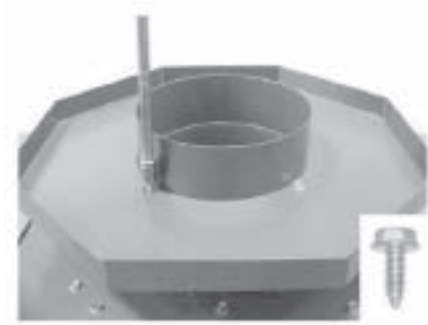

Fig. 4
- Slide the collector over vent collar, aligning the holes over the openings in the tinnerman clips as shown in **Fig. 4**.
- Take four of the screws from the kit and screw into the holes as shown in **Fig. 4**.